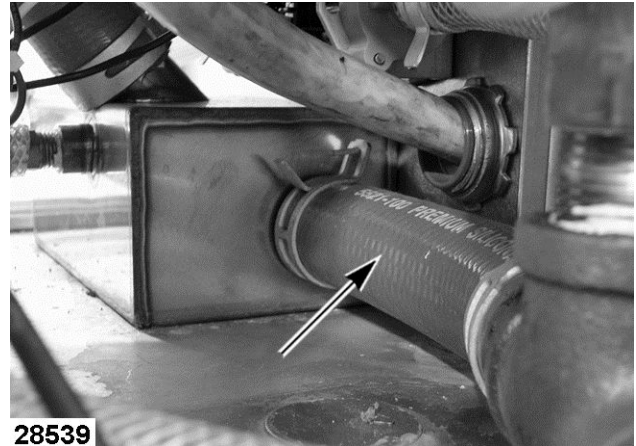

Fig. 26
6. Access steam generator drain hose Fig. 26 from right side of machine and disconnect from drain box.